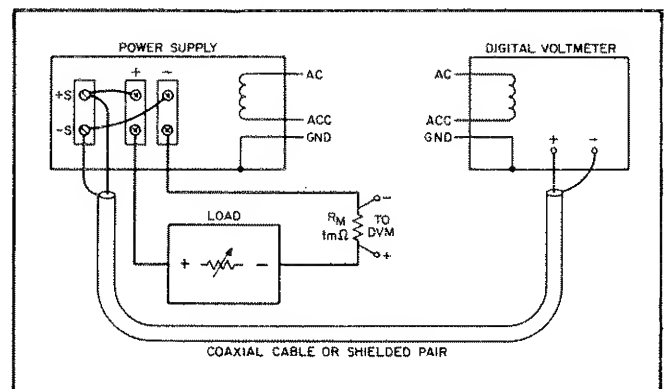

Figure 5-2. Basic Test Setup
- Connect test setup shown in Figure 5-2. Operate the load in constant resistance mode (Amps/Volt) with resistance initially set to maximum.
- a. Connect test setup shown in Figure 5-2.
- Connect load and digital voltmeter as illustrated in Figure 5-2.
- a. Connect load and digital voltmeter (DVM) as illustrated in Figure 5-2.